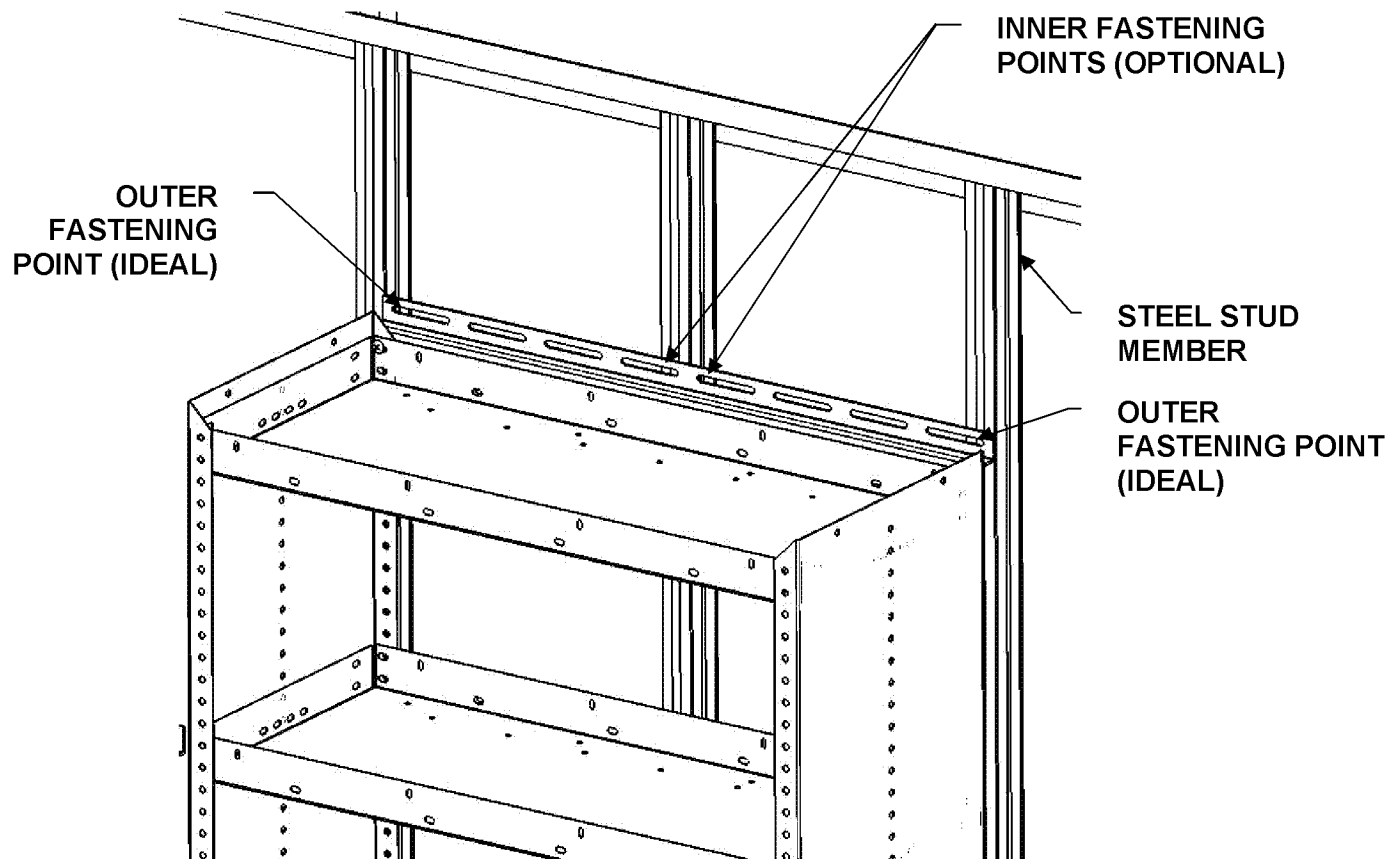

FIGURE 3. STUD LINE DETERMINATION. (INTERIOR PLYWOOD WALL REMOVED FROM FIGURE FOR STEEL STUD MEMBER VISIBILITY.)
- 5) STARTING ON EITHER END OF THE Z-RAIL, MARK WHERE ALL PREVIOUSLY MARKED STUD LINES INTERSECT Z-RAIL SLOTS. FOR AN IDEAL INSTALLATION, THE STUD LINES SHOULD INTERSECT THE TWO OUTER MOST SLOTS OF THE Z-RAIL. DEPENDING ON INTERIOR LAYOUT LIMITATIONS, INNER SLOTS ARE ACCEPTABLE. HOWEVER, IF INNER SLOTS CAN ONLY BE USED, *THREE PLUSNUT SETTINGS AND FASTENERS SHOULD BE USED TO INSTALL THE PRODUCT. (SEE FIGURE 3.)*